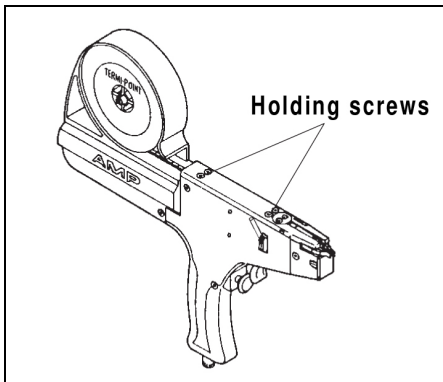

Fig. 15: Holding Screws Check
1. Ensure that all holding screws are tight (Fig. 15).